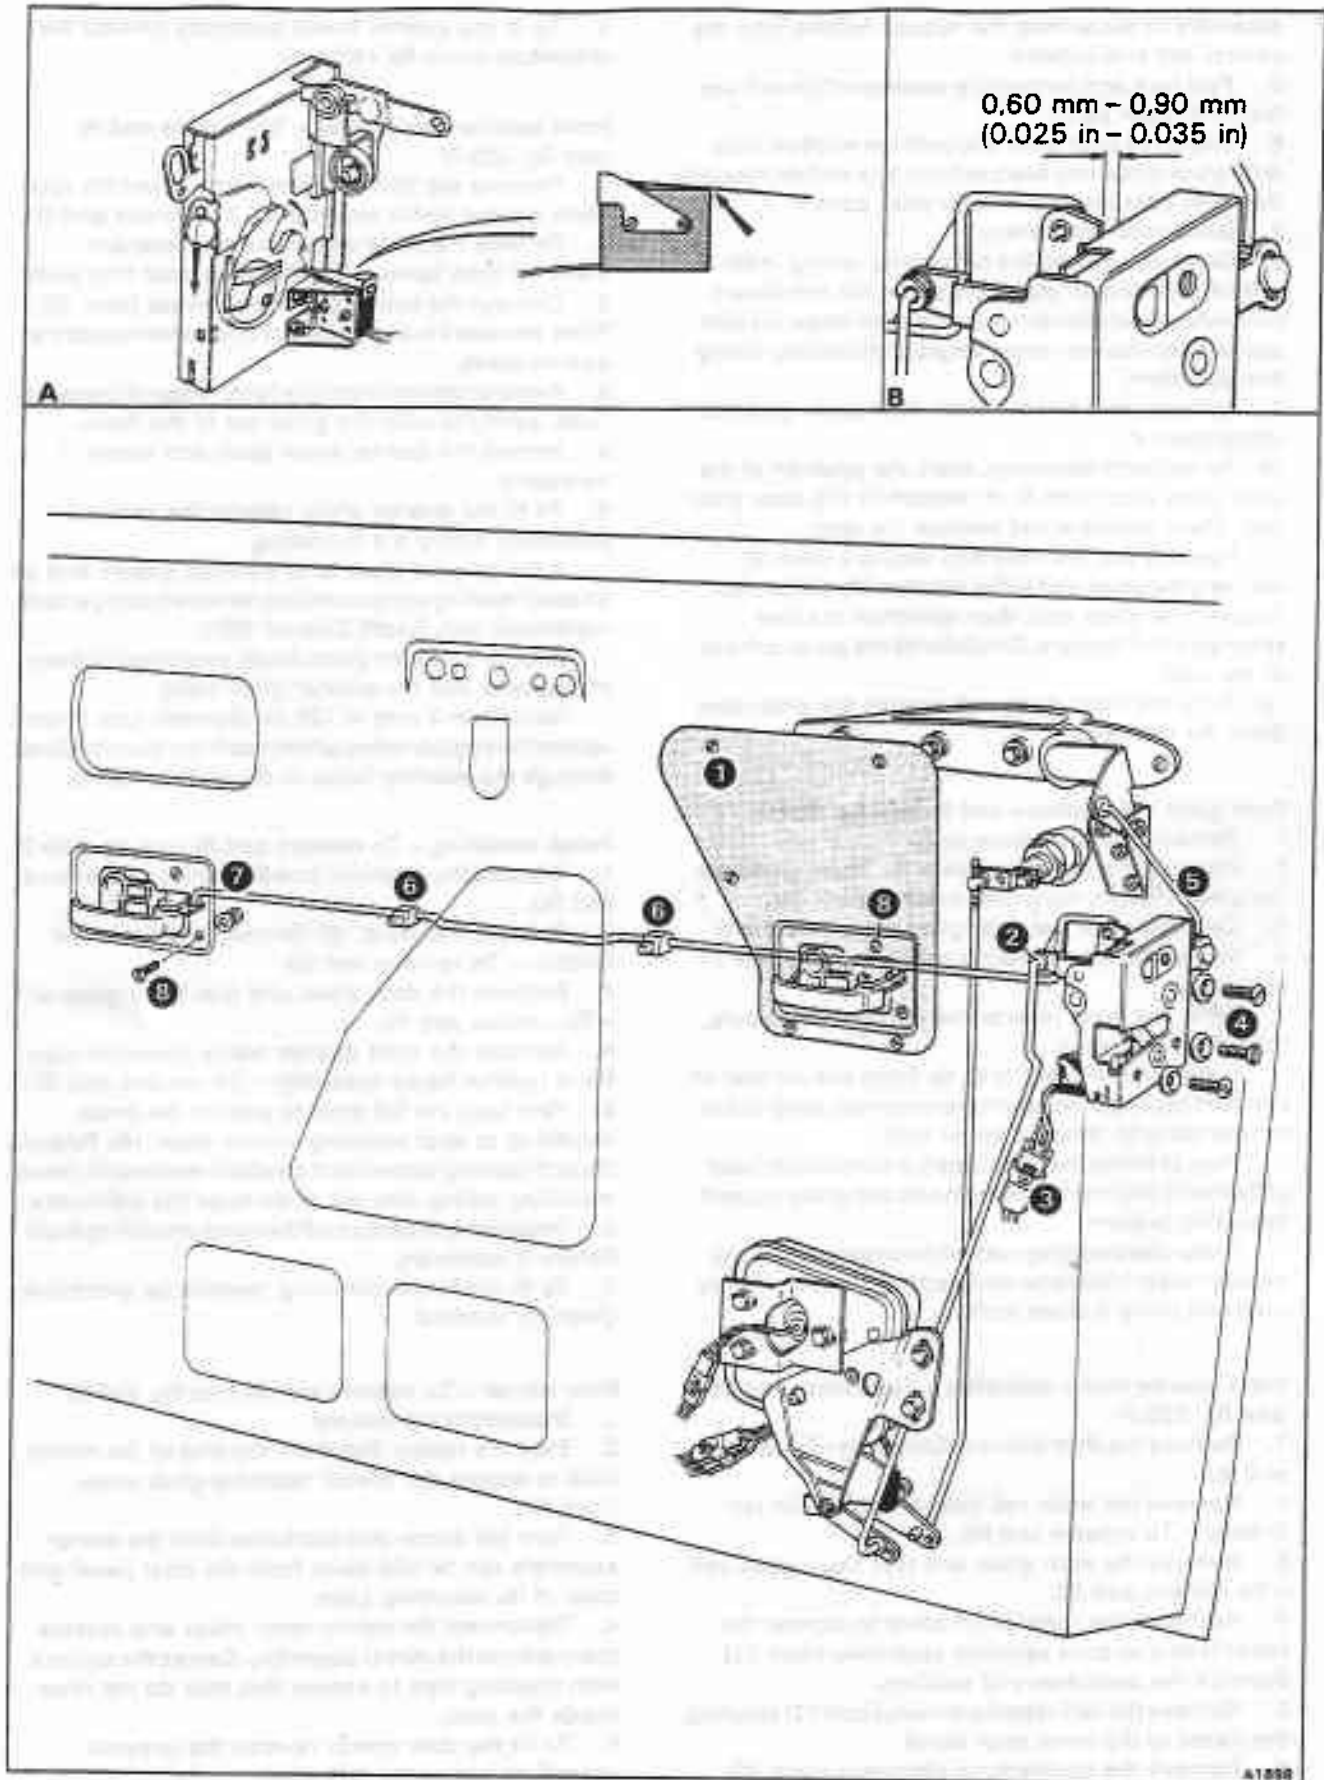

Fig. S20-3 Door latch, interior release handles, and fittings
3. Remove the five countersunk setscrews from the rearward interior door release handle mounting plate (see fig. S20-3, item 1). Lower the mounting plate assembly to disconnect the release handle from the control rod and remove.
5. Lower the door glass unit until the window lift to door glass mounting bracket (item 1) is visible through the large aperture in the inner door panel.
7. Disconnect the window lift motor plug and socket (item 2).
8. Carefully unhook the tensioning spring (item 3) from the lower door glass guidance slide and allow it to slowly retract. Extreme care must be taken to avoid contact with the very sharp edges of the spring during this operation.
9. Unscrew and remove both door glass guidance slides (item 4).
10. To facilitate assembly, mark the position of the door glass stop (item 5) in relation to the door glass unit. Then, unscrew and remove the stop.
11. Remove the two nuts and washers (item 6) securing the glass unit to the window lift mechanism. Support the glass unit, then withdraw the two setscrews and spacers. Carefully lift the glass unit out of the door.
12. Remove the two setscrews, plain washers, and rubber washers (item 7) securing the top of the window lift mechanism to the inner door panel.
13. Remove the two rubber grommets from the underside of the door. Release the exposed bolts, nuts, and washers (item 8), then manoeuvre the window lift mechanism through the large aperture in the inner door panel.
4. Remove the five countersunk setscrews from the rearward interior door release handle mounting plate (see fig. S20-3, item 1). Lower the mounting plate
Door latch – To remove (see fig. S20-3)
Door latch – To fit (see fig. S20-3)
Interior door handles – To remove and fit (see fig. S20-3)
Interior door handles – To set (see fig. S20-3)
2. Remove the five countersunk setscrews from the rearward interior door release handle mounting plate (see fig. S20-3, item 1). Lower the mounting plate assembly to disconnect the release handle from the control rod and remove.
5. Disconnect the plugs and sockets (item 4) from the solenoids and micro-switches.
6. Disconnect the relay lever link rod (item 5) from the door latch.
7. Disconnect the private lock control rod (item 6) from the solenoid assembly.
8. Remove the three setscrews and washers (item 7) securing the solenoid assembly to the inner door panel. Then, carefully manoeuvre the assembly clear of the door.